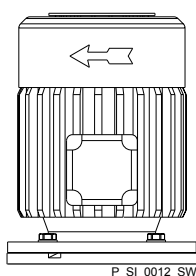

Fig. 17: Direction of rotation of motor
- When connecting the motor, pay attention to the correct direction of rotation indicated by the arrow on the fan cover, as shown in Fig. 17.